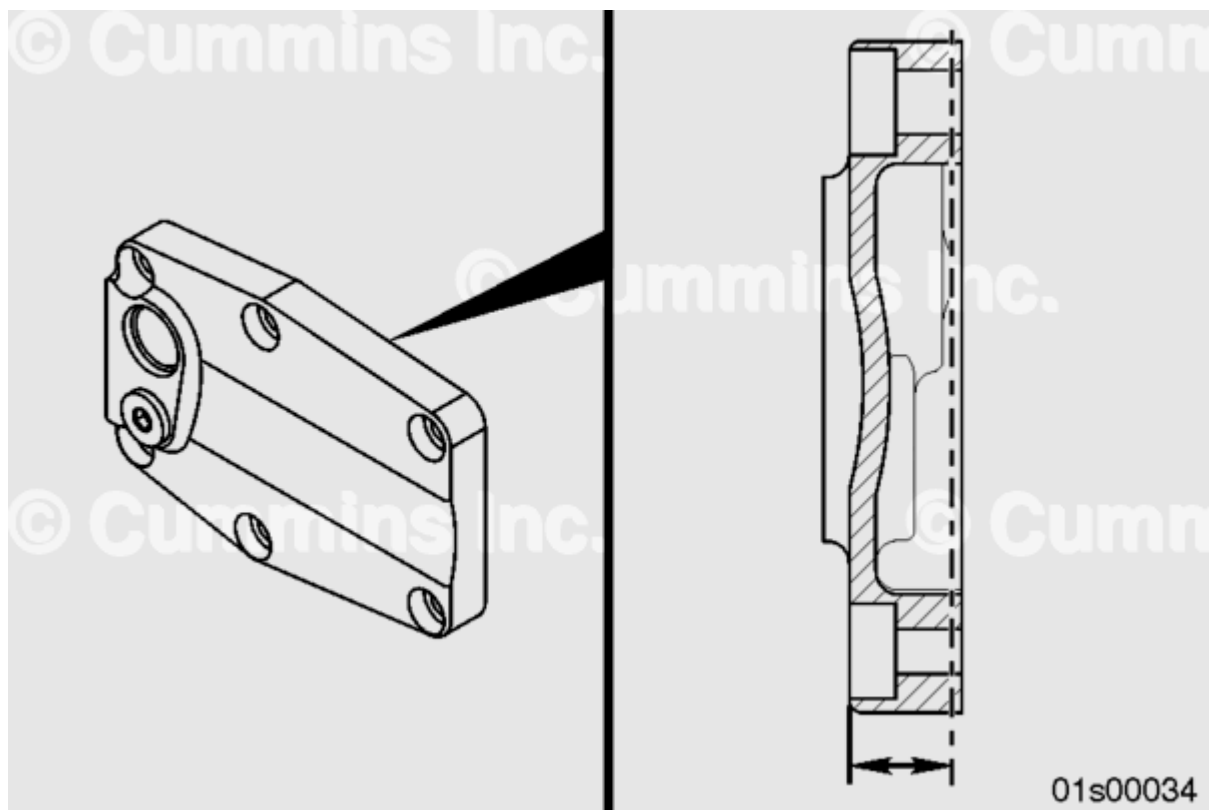

Figure 4: Material to be removed from mating face of cover
- The jumper cover can be machined so that 1.1 mm [0.043 inch] of material is machined off of the mating face of the cover. See Figure 4. After machining, the surface should have a flatness of 0.25 deviation and a surface finish of 3.2 roughness average, maximum.
- An old cover will have a thickness (dimension X in Figure 4) of 12 ± 0.38 mm [0.472 ± 0.0149 in]
- A new cover will have a thickness (dimension X in Figure 4) of 10.9 ± 0.38 mm [0.429 ± 0.0149 in]